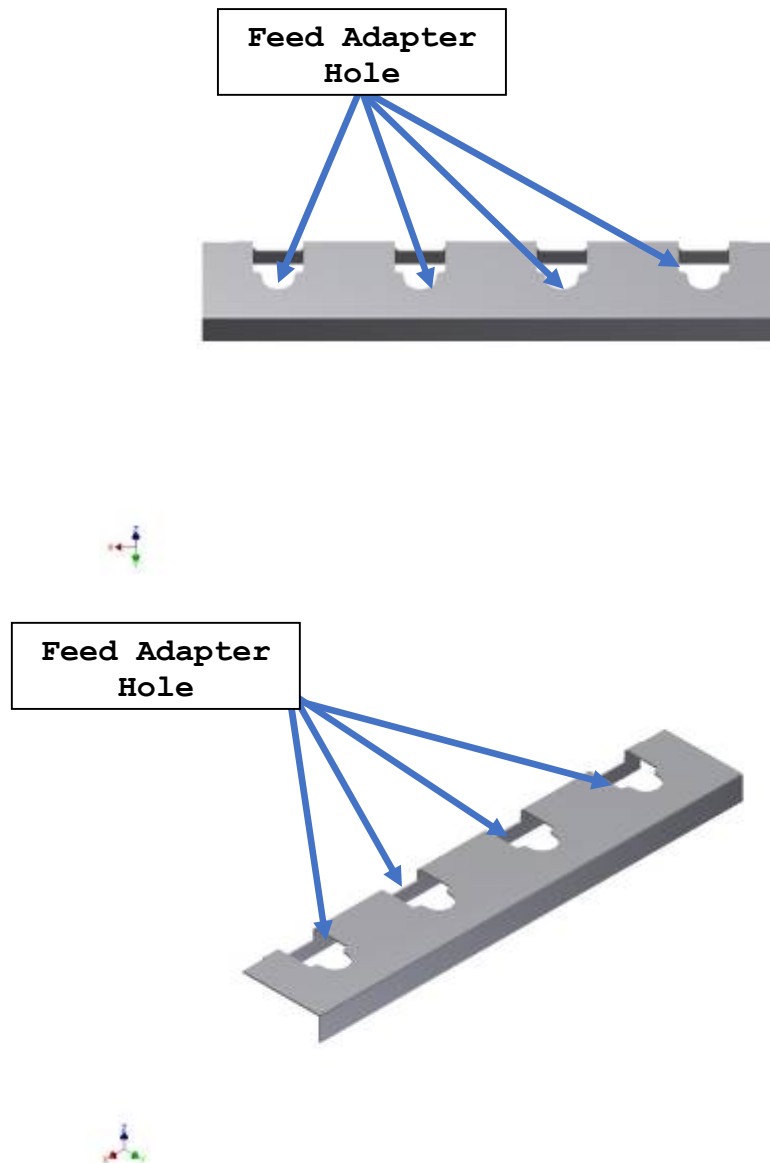

Figure 4: Example Module Base Plate (Top view and Isometric view)
5. The modules should be placed on a plate with cut out hole for where the feed end adaptor may fit into. A example of such a plate is shown in Figure 4. It is recommended to have at least one strap and one saddle to hold the modules to the support structure.